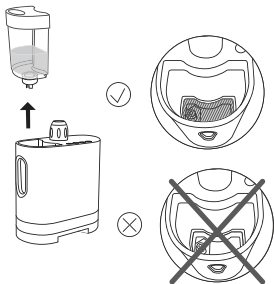

fig.15
**Lift the water tank to make sure there is water in the reservoir. (fig.15)**